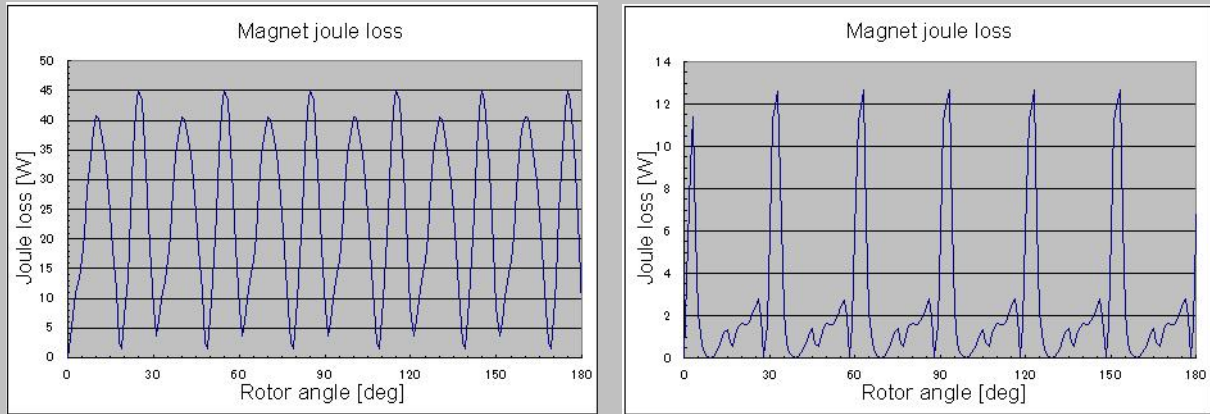

Fig. 5 Current phase/Torque properties Concentrated winding (left) and distributed winding (right)
A feature of the analysis loss attained was magnet current eddy loss. Concentrated winding had more significant reverse magnetic field changes than distributed winding, which increased the changes produced in the magnet's eddy current loss (Fig. 5). Heat generated in the concentrated winding magnet was 23.4 (W) compared of 2.6 (W) generated in the distributed winding magnet.